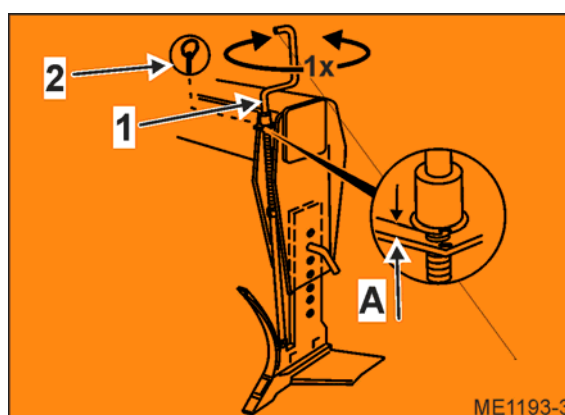

Fig. 30
7. Turn the crank (Fig. 30/1) counter clockwise once.
8. Secure the crank against turning by using a linch pin (Fig. 30/2).